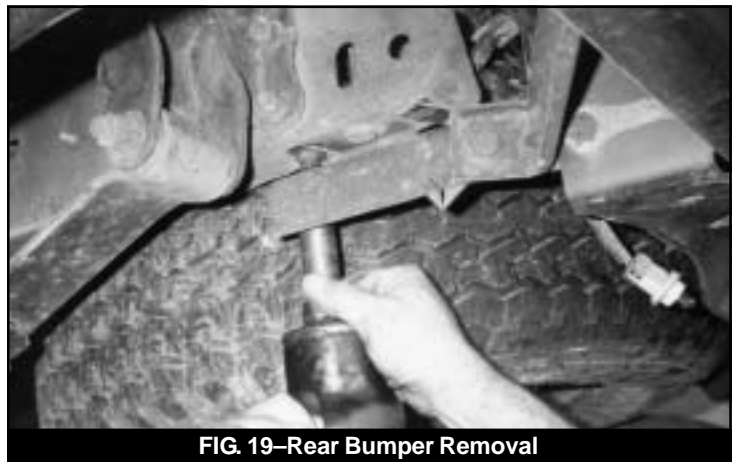

FIG. 19—Rear Bumper Removal
64. Remove the four bolts that mount the rear bumper to the frame (Fig. 19) and remove bumper from the vehicle.